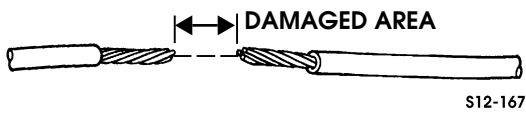

Figure 12-8: Damaged Wire
1. Remove damaged area, removing as little wire as possible (Figure 12-8).